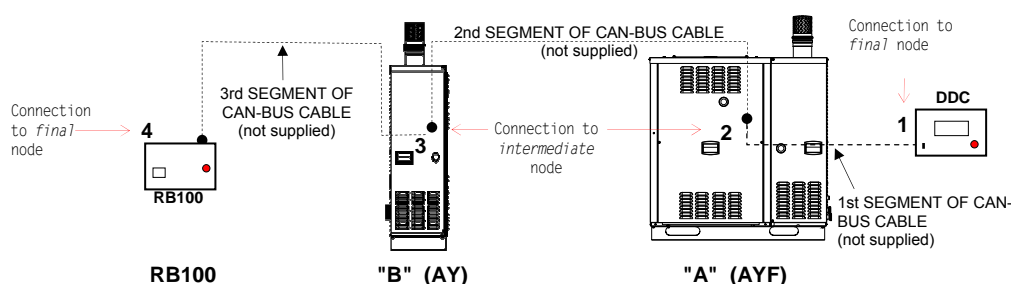

Figure 15 Examples for CAN BUS network with 4 nodes = 2 Robur units + 1 RB100 + 1 DDC
Appliance and DDC communicate by CAN BUS network (Figure 15, on page 34). CAN-BUS network consists of a set of elements (appliances or DDC) named nodes, connected by a cable (CAN-BUS cable), with 3 DDCs maximum.
CAN-BUS network shown in scheme in Figure 15 has the following nodes:
- If DDC is an **intermediate node** on network (see Figure 15/Page 34): also perform point 7;
- If appliance is an **intermediate node** on network (Figure 15/Page 34) also perform point 7.